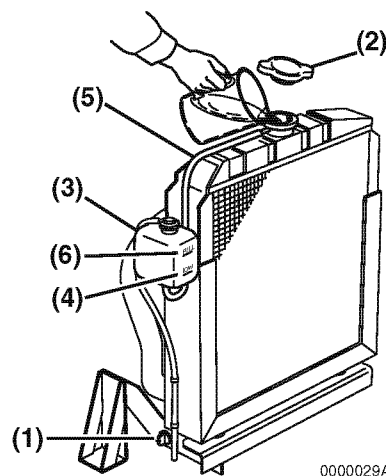

Figure 4-7
Fill the radiator and reserve tank as follows. This procedure is for filling the radiator for the first time or refilling it after it is flushed. Note that a typical radiator is illustrated (**Figure 4-7**).
1. Check to be sure the radiator drain plug is installed and tightened or the drain cock (**Figure 4-7, (1)**) is closed. Also make sure the coolant drain plug (**Figure 4-8, (1)**) in the cylinder block is closed or the oil coolant hoses (**Figure 4-9, (1)**) are installed at the oil cooler.
2. Remove the radiator cap (**Figure 4-7, (2)**) by turning it counter-clockwise about 1/3 of a turn.
4. Reinstall the radiator cap (**Figure 4-7, (2)**). Align the tabs on the back side of the radiator cap with the notches on the engine coolant filler port. Press down and turn the cap clockwise about 1/3 of a turn.
5. Remove the cap on the reserve tank (**Figure 4-7, (3)**), and fill it to the LOW (COLD) mark (**Figure 4-7, (4)**) with engine coolant. Reinstall the cap.
6. Check the hose (**Figure 4-7, (5)**) that connects the reserve tank (**Figure 4-7, (3)**) to the radiator. Be sure it is securely connected and there are no cracks or damage. If the hose is damaged, the engine coolant will leak out instead of going into the reserve tank.
7. Run the engine until it is at operating temperature. Check the level of engine coolant in the reserve tank. When the engine is running and the engine coolant is at normal temperature, the coolant level in the tank should be at the FULL (HOT) mark (**Figure 4-7, (6)**). If the engine coolant is not at the FULL (HOT) mark (**Figure 4-7, (6)**), add additional engine coolant to the reserve tank to bring the level to the FULL (HOT) mark.